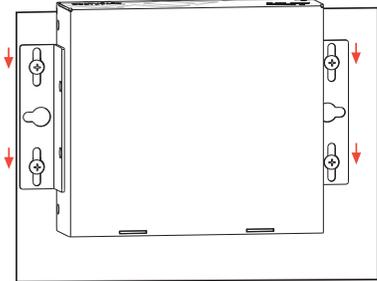

FIG. 7 Align module over screws and slide into place
3. Align the module with the center of the double key-hole slots over the screws and slide into place as indicated in FIG. 7.